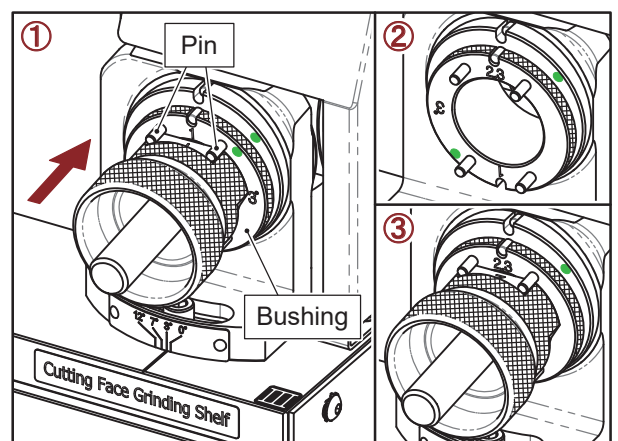

Fig. 13-3
3. 3 Flute Cutting Face Grinding (III) (Fig. 13-3)
① Insert the chuck set into the bushing on the Shelf (III), align Slot No.1 to the two pins where marked as No.1, push the chuck set gently until the grinding noise stops.
② Take the chuck set out, turn the bushing to No.(2·3), align No.(2·3) to the pin on the shelf, then insert it to the end.
③ Insert the chuck set into the bushing, align Slot No.2 to the two pins where marked as No.(2·3), push the chuck set gently until the grinding noise stops. Turn the chuck set to grind the Slot No.3 in the same way.